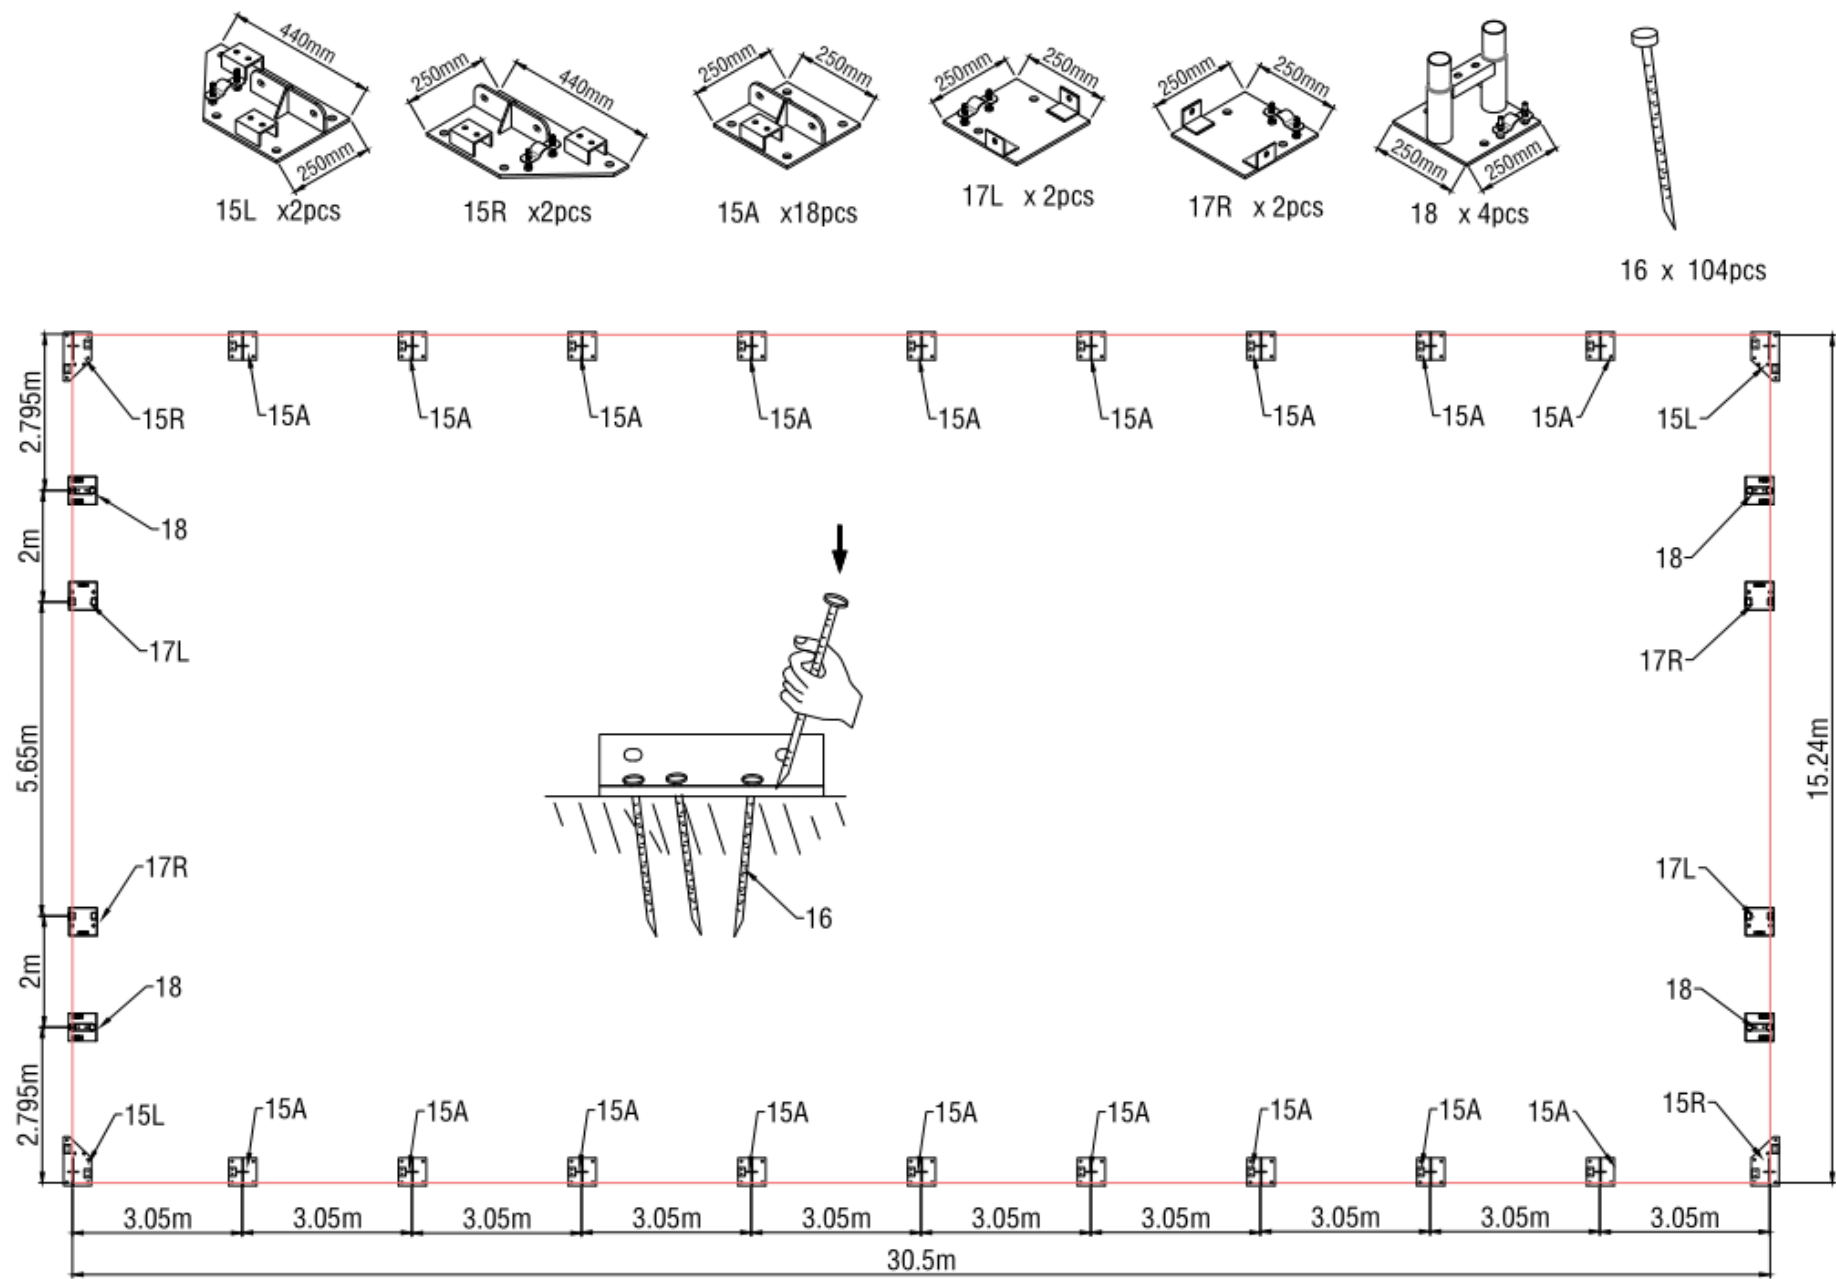

Figure 1
2. Please refer to the diagram (Figure 1) to place the base plates.
3. As Figure 1 shows each Base plate is equipped with 4 pieces of Stake pegs.(No.16) or Expand screw